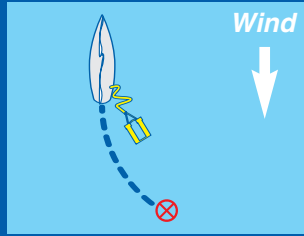

Fig. 10
1. Shout “MAN OVERBOARD!,” turn the boat into the wind to reduce speed, and throw the Lifesling. (Fig. 10)